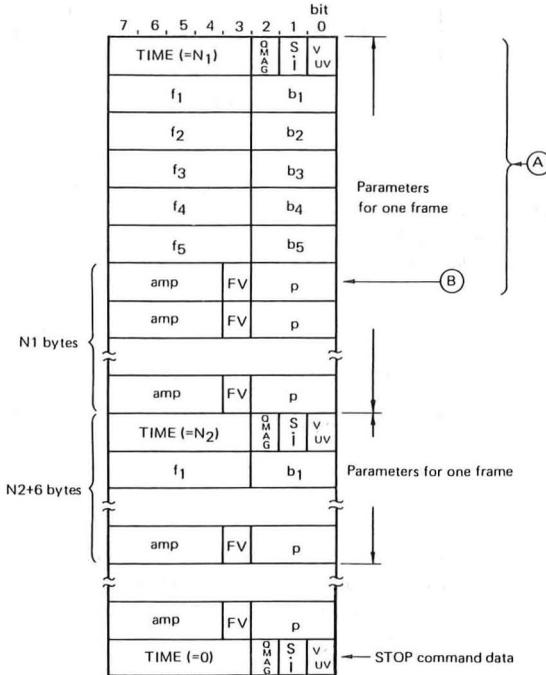

Fig. 8 Formant Parameter
The formant parameters used for voice generation according to the Internal or External Message Select Command are stored in the internal ROM of the μPD7752 or external ROM in the data format as shown in Fig. 8.
- 4) For transfer of subsequent formant parameters per frame (see Table 1), be sure to transfer 7 bytes (shown by Ⓐ in Fig. 8 when the REQ signal is output 7 times) or 1 byte (shown by Ⓑ in Fig. 8 when the REQ signal is output only one time) of formant parameter sequentially within 3/4 frame.
With TIME = 3, the 7 bytes shown by $\text{\textcircled{A}}$ in Fig. 8 are used in the first frame, and amp (amplitude), FV (fricative voice) and p (pitch) only are changed in the next frames.